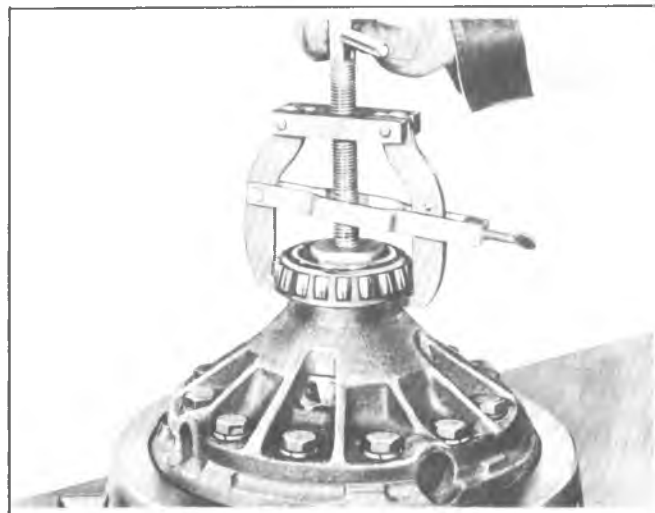

Fig. 7G-Differential Bearing Removal
1. Install Tool J-8107 making sure puller legs are fitted securely in notches in case and tighten retaining yoke as shown in figure 7G.